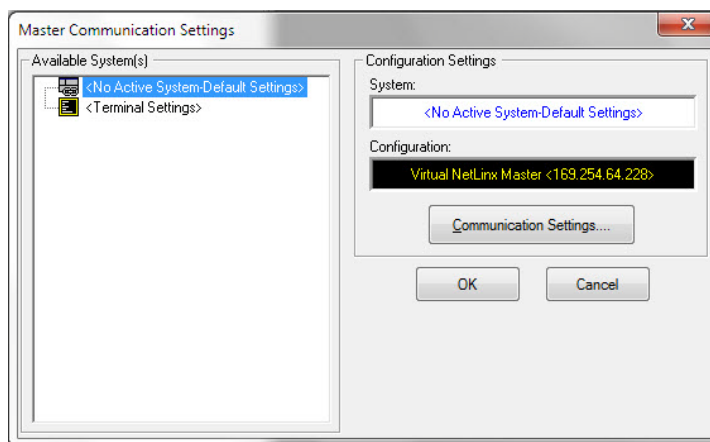

FIG. 64 Master Communications Settings dialog box
1. Launch NetLinX Studio and select **Settings > Master Communication Settings** from the Main menu to open the *Master Communication Settings* dialog (FIG. 64).